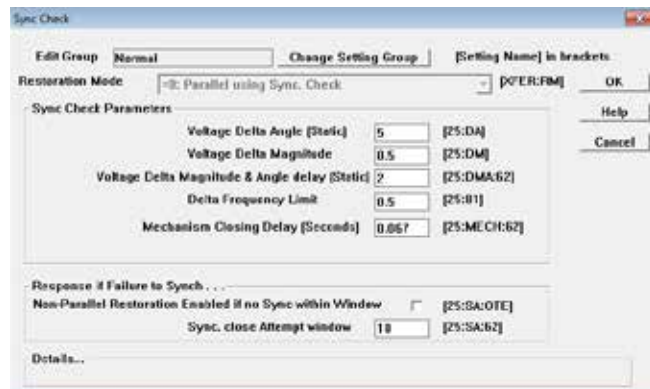

Figure 10. Sync check menu
The load is then transferred back to the preferred source, after completing a preset time delay, when the preferred source again becomes healthy. The return transfer can be either non-parallel (**NP**) in which the alternate-source switch opens before the preferred-source switch closes, or parallel (P) in which the preferred-source switch closes before the alternate-switch opens. With parallel return, the second outage is eliminated; however, the Sync Check function on the ProView Sync Check Tab (see **Figure 9**) is enabled to ensure both sources are in phase. The return transfer mode is selected by setting the Source Preference on, **Figure 10**.